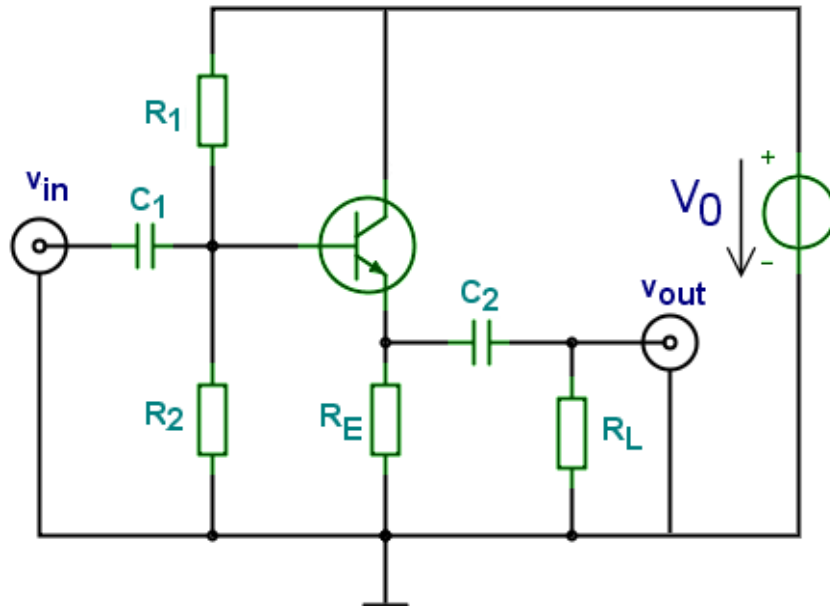

Figure 2.6: CC amplifier
2.3.1 Change our previous CE circuit according to **figure 2.6** to get a CC amplifier. Remove / short circuit R_C , remove C_E and put C_2 to the emitter to get the new output.